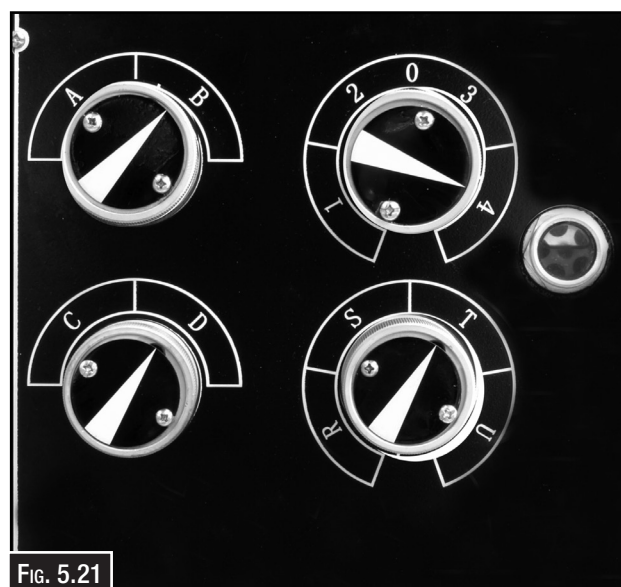

FIG. 5.21
4. Turn the first knob of the quick change gearbox to "B" position, turn the second knob to "T" position, turn the third knob to "D" position and turn the fourth knob to "I" position. (Fig. 5.21). Leaving 0.08mm–0.15mm backlash between gear teeth, arranges the 30 teeth change gear to 120 teeth and 120 teeth to 40 tooth change gear.